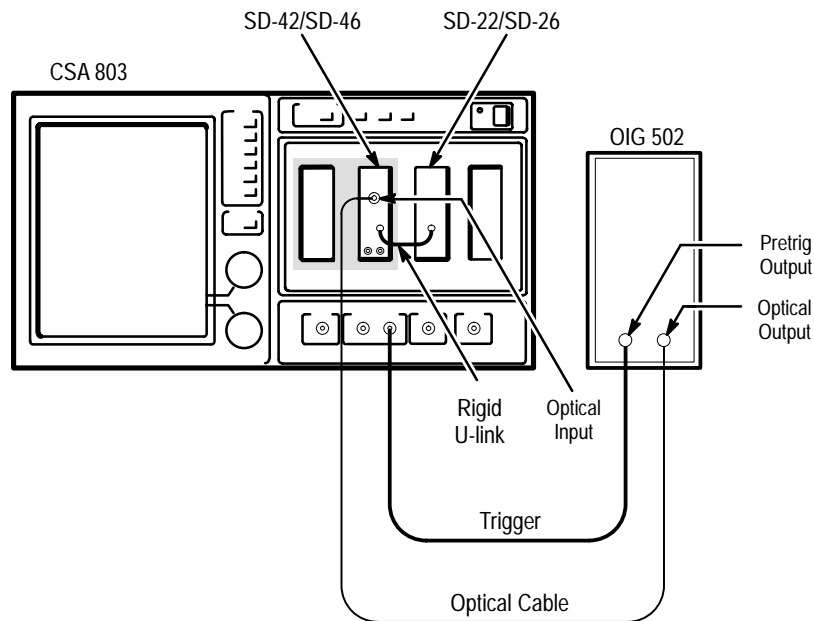

Figure 3–2: Setup to Check Pulse Width and Pulse Amplitude
1. Connect the equipment as shown in Figure 3–2.